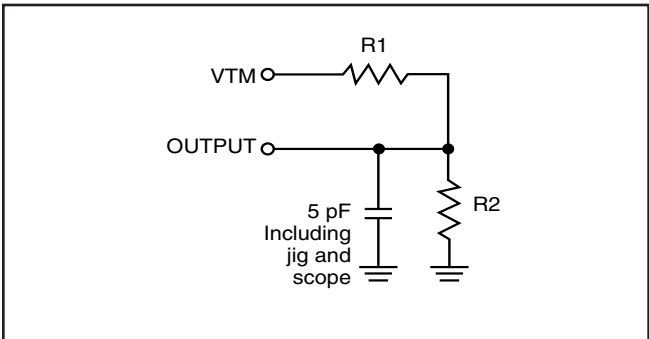

Figure 2
2. Tested with the load in Figure 2. Transition is measured  $\pm 500$  mV from steady-state voltage. Not 100% tested.
3. Tested with the load in Figure 2. Transition is measured  $\pm 500$  mV from steady-state voltage. Not 100% tested.